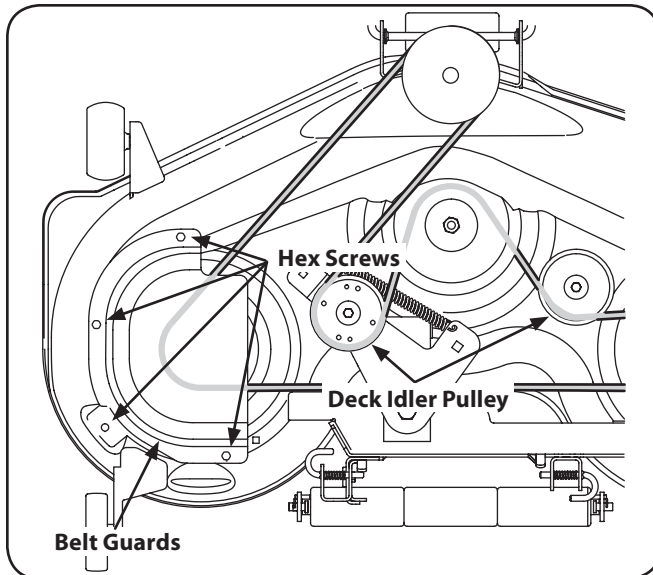

Figure 7-7
2. Remove the belt guards by removing the hex screws that fasten them to the deck. See Figure 7-7.